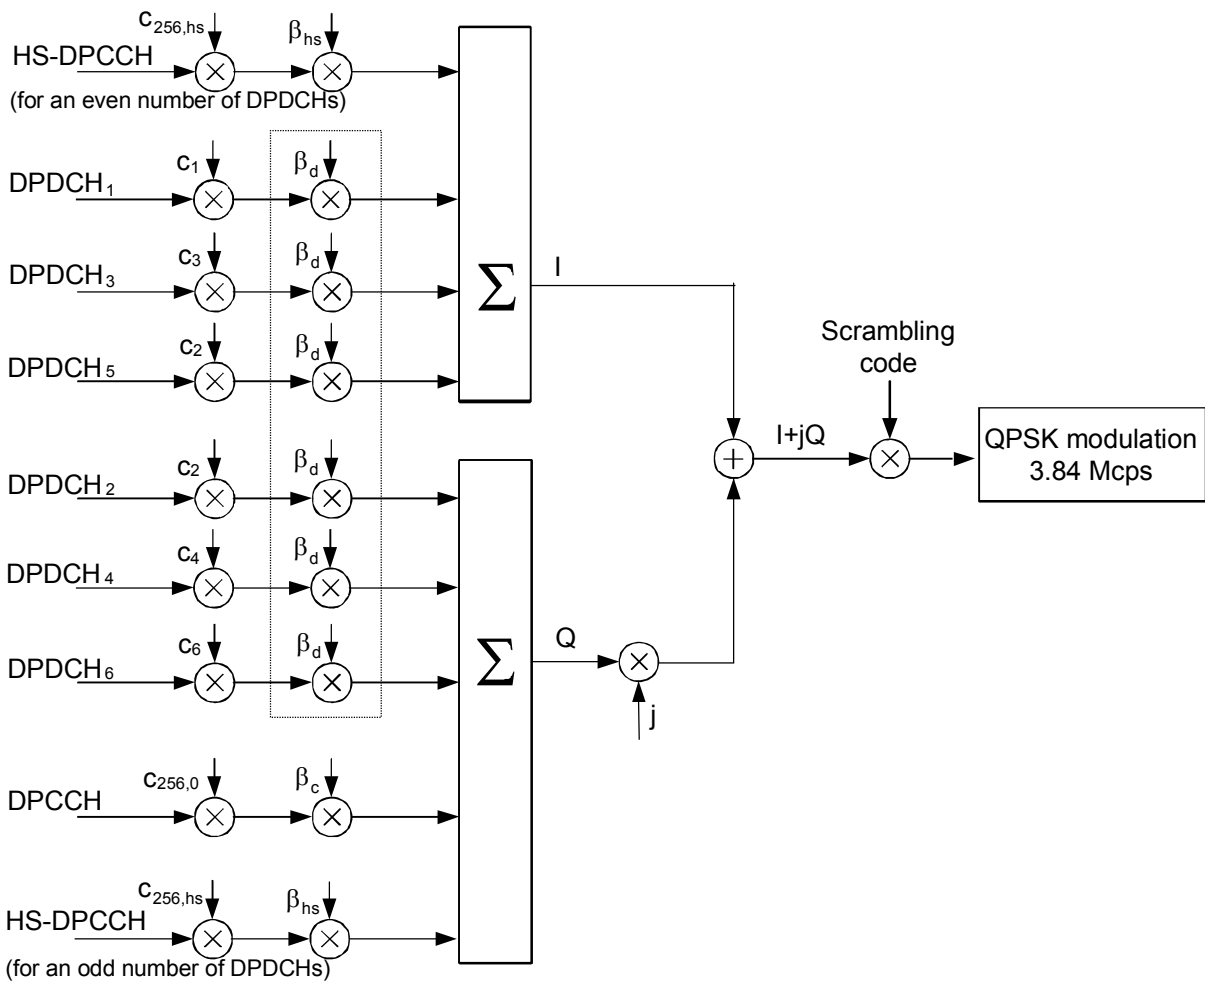

Fig. 90 Spreading of the uplink channels and gain factors
- The power offset parameters ΔACK , ΔNACK , and ΔCQI determine the HS-DPCCH power offset for HS-DPCCH slots carrying ACK, NACK, and CQI messages, respectively (see standard TS 25.214). The gain factors β_{hs} in Fig. 90 below are calculated from the HS-DPCCH power offset. The signalled values for all three power offset parameters are integer numbers between 0 and 8.